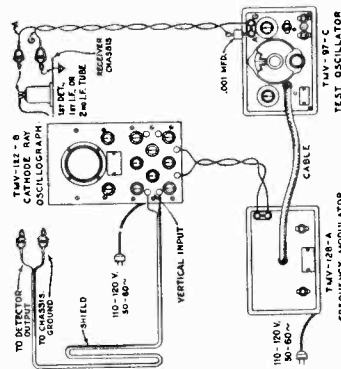

Figure 2—Alignment Apparatus Connections
(b) Attach the output of the test Oscillator between the control-grid cap of the second I-F tube (RCA-6K7) and chassis ground as shown typically by Figure 2. Tune the Oscillator to 460 kc. and set its modulation switch to "On." Regulate its output until the signal produces a wave pattern on the Oscillograph screen, adjusting the Oscillograph controls to give a shape which is convenient for peak indications. Cause the image to stand still on the screen by manipulation of the frequency and synchronizing controls. Then carefully tune the two trimmers C-44 and C-45 of the third I-F transformer to produce maximum amplitude (vertical deflection) of the oscillographic image. Under this condition the transformer will be sharply resonated to 460 kc.
(c) The Frequency Modulator should then be placed in operation and interconnected with the Full-Range Oscillator by means of the special shielded patch cord. Figure 2 shows the proper arrangement. Set the Frequency Modulator sweep-range switch to its "Lo." position and turn the Oscillator modulation switch to "Off." Change the timing control of the Oscillograph to "Ext." and place the range switch to its No. 2 position. Then carefully shift the tuning of the Oscillator so as to increase its frequency, until two distinct and similar waves appear on the Oscillograph screen and become exactly coincident at their highest points. This condition will be found to occur at an Oscillator setting of approximately 340 kc. The curves will be identical in shape but appearing in reversed positions. Adjust the frequency control of the Oscillograph in order to cause the waves to conform with the above requirement and to make them remain motionless on the screen. This will require a setting of approximately 1/2 clockwise rotation of the frequency control. The trimmers C-44 and C-45 should then be re-adjusted so that the two curves move together and become exactly coincident throughout their lengths, maintaining the maximum amplitude at which this condition can be brought about.
Six trimmers are associated with the three I-F transformers. Their locations on the chassis are shown by Figure 4. Each must be aligned to a basic frequency of 460 kc. The last I-F transformer should be adjusted first, the one preceding it second and the operation carried through successive stages until the first transformer has been aligned. For such a process, it is necessary to feed the output of the Full-Range Oscillator to the stages in their order of alignment, adjusting the trimmers of each and observing the effect at the second-detector output on the Cathode-Ray Oscillograph. The most convenient point for connection of the Oscillograph is at the control-grid of the RCA-6C5 first audio tube, with the vertical "H" input terminal attached to the grid connection and the "Gnd" to the chassis. The "Ext. Sync." terminals of the Oscillograph should be connected to the Frequency Modulator as illustrated in Figure 2. A .001 mfd. capacitor installed in series with the Oscillator "Ant." output lead will prevent the leakage constants of the stage being aligned, from becoming upset.
- (a) With the receiver range switch in its Band A position, tune the station selector until the dial pointer is at a reading of 1720 kc. Adjust the test Oscillator to 1720 kc. (modulation "On" and Frequency Modulator disconnected) and increase its output to produce a registration on the Oscillograph. Carefully align the oscillator, detector, and antenna trimmers, C-23, C-14, and C-3 respectively, so that each brings about maximum amplitude of output as shown by the wave on the Oscillograph. It will be necessary to have the tuning control of the Oscillograph on "Int." for this operation. After each trimmer has been peaked, the Oscillograph tuning control should be set to "Ext." and the Frequency Modulator placed into operation with its connections to the Oscillator and Oscillograph made in accordance with Figure 2. Turn the modulation switch of the Oscillator to "Off" and return the Oscillator (increase frequency) until the forward and reverse waves show on the Oscillograph and become coincident at their highest points. Adjust the trimmers C-23, C-14, and C-3 again, setting each to the point which produces the best coincidence and maximum amplitude of the wave images.